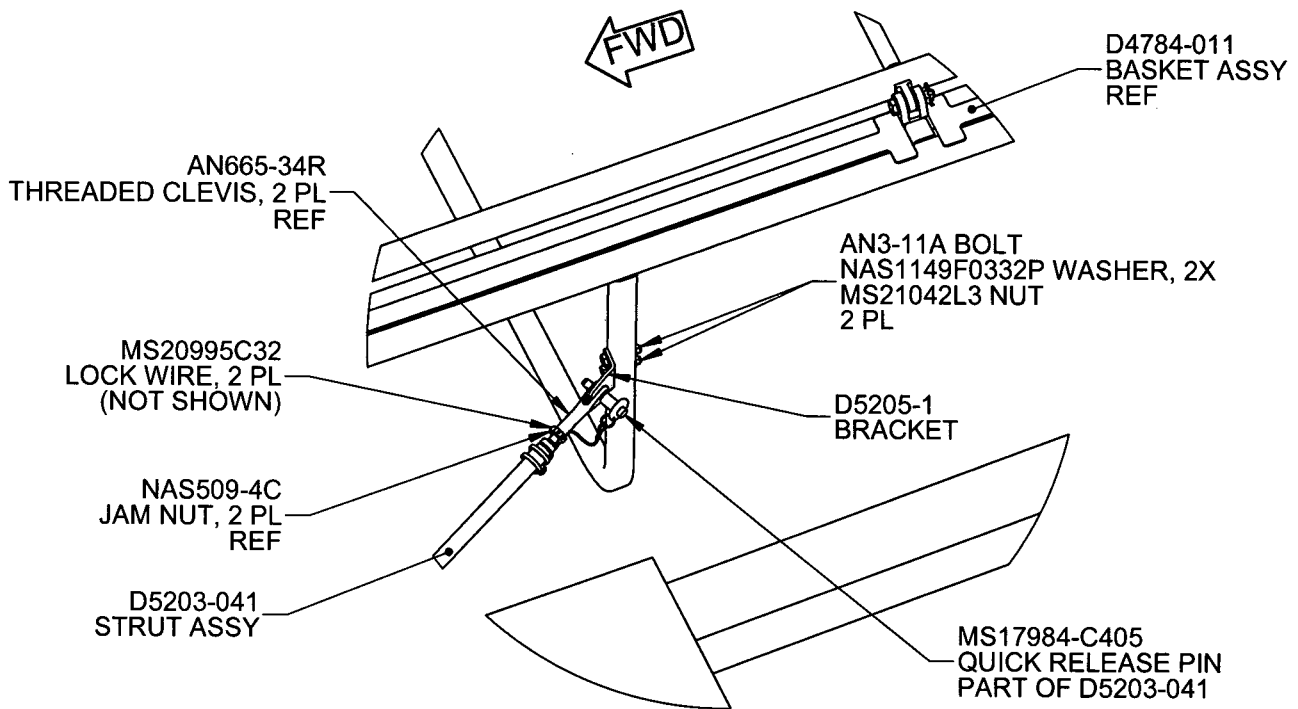

FIGURE 3. D5205-1 BRACKET INSTALLATION
- 3.2 Install D5205-1 Bracket and associated hardware at basket rib shown in Figure 3.